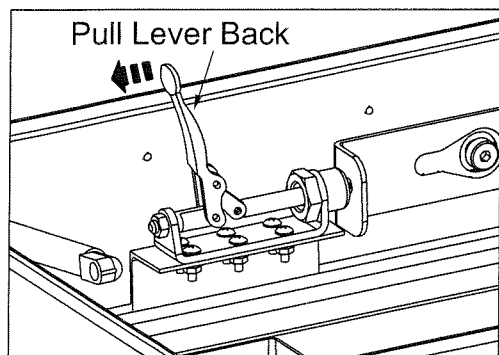
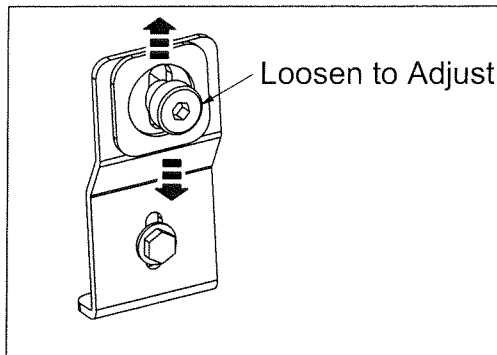
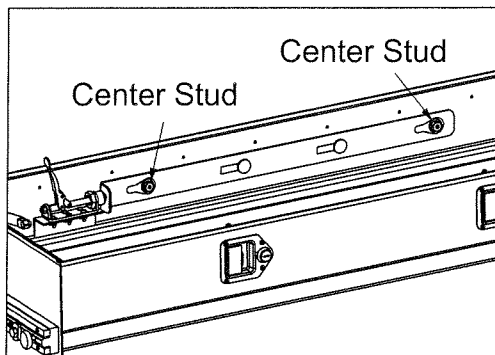

Fig. 8
Fig. 9
Fig. 10
11. Open the Tool Box (#1) and pull the rear latch lever back (Fig. 8). This will open the rear sliding bracket. Next, slide the tool box forward slowly towards the Mounting Brackets (#2). Adjust the horizontal location and height of the Mounting Brackets (#2) at the bolt along the slot in order to center the shoulder bolt in the opening of the rear sliding bracket (See Fig. 10). If further adjustment of the height of the Mounting Brackets (#2) is necessary, go to the next step to adjust the shoulder bolt. (See Step 12 and Fig. 9).